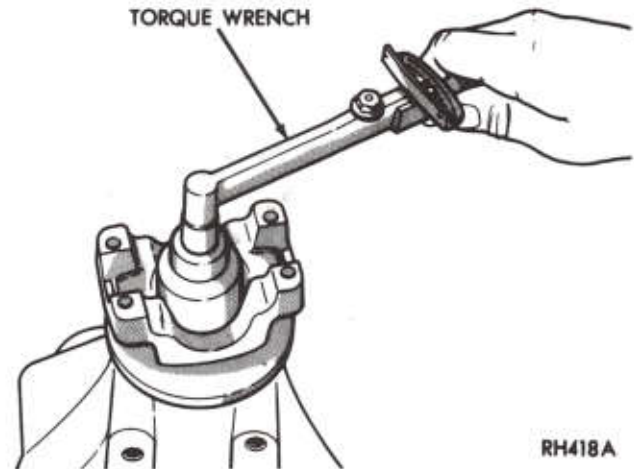

Fig. 30—Checking Pinion Bearing Preload
(2) Install drive pinion and bearing assembly in carrier and install the original front pinion bearing shim pack followed by the bearing cone. **Do not install oil seal at this time.**
(3) Install universal joint flange, washer and nut. Tighten nut 250-270 ft. lbs. (339 to 366 N·m). Rotate pinion several complete revolutions to seat bearing rollers.
(4) Using an inch-pound torque wrench C-685-A, measure pinion bearing preload by rotating pinion with handle of wrench floating (Fig. 30). Take reading while handle is moving through several complete revolutions. Correct preload is 10-20 in. lbs. (1 to 2 N·m). **Add** shim to decrease preload and **Subtract** shims to increase preload. Shims are available in the following thicknesses: .003, .005, .010, and .030 inch (.08, .13, .25, and .8 mm).
(5) After the correct pinion bearing preload has been established, remove the universal joint flange, nut and washer.
(6) Install oil slinger and gasket. Using pinion seal installing Tool C-3719 and Handle C-4171 on **60 Model axles** and on the **70 Model axles** use Tool C-359, install drive pinion oil seal.
(7) Install universal joint flange washer and nut. Tighten nut 250-270 ft. lbs. (339 to 366 N·m).